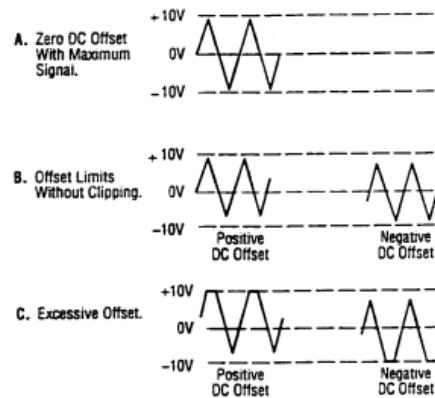

Figure 3. Use of DC OFFSET Control
7. A superimposed DC component can be added to the output signal by engaging the **DC OFFSET** switch (14) to enable operation of the **DC OFFSET** control (5). Rotation of this control adds a positive or negative DC component to the output signal. The DC component introduced is independent of the **OUTPUT LEVEL** control and can be varied by ± 10 volts open circuited or ± 5 volts into 50Ω . The DC Offset does not affect the **TTL/CMOS** output jack. The effect of DC OFFSET is shown in Fig. 3.
6. Remember that the output signal swing of the generator is limited to ± 10 volts open circuited or ± 5 volts into 50Ω , and applies to the combined peak-to-peak signal and DC offset. Clipping occurs slightly above these levels. Fig. 3 illustrates the various operating conditions encountered when using the DC offset. If the desired output signal is large or if a large DC offset is required, an oscilloscope should be used to make sure that the desired signal is obtained without undesirable clipping.